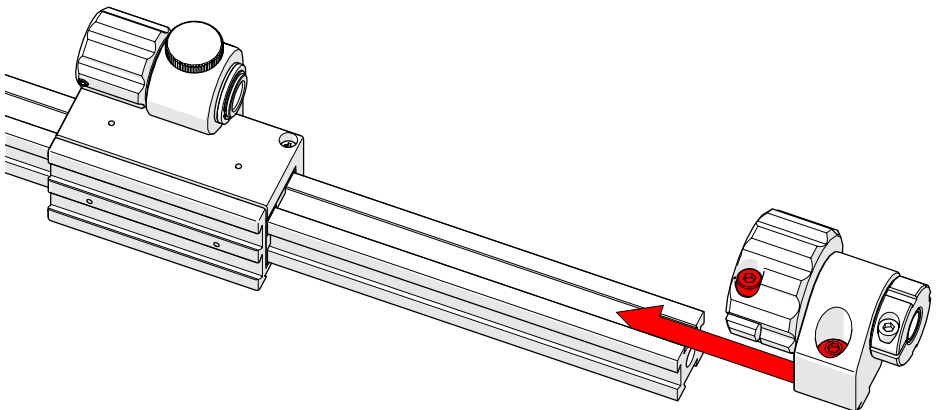

Fig. 62 - Place main knob on frame bar
3. Loosen the main knob's hexagonal screw and lock screw (*Fig. 62 - note red highlight*).
4. Align the dovetail nut of the main knob with the frame bar and slide into position (*Fig. 62*).